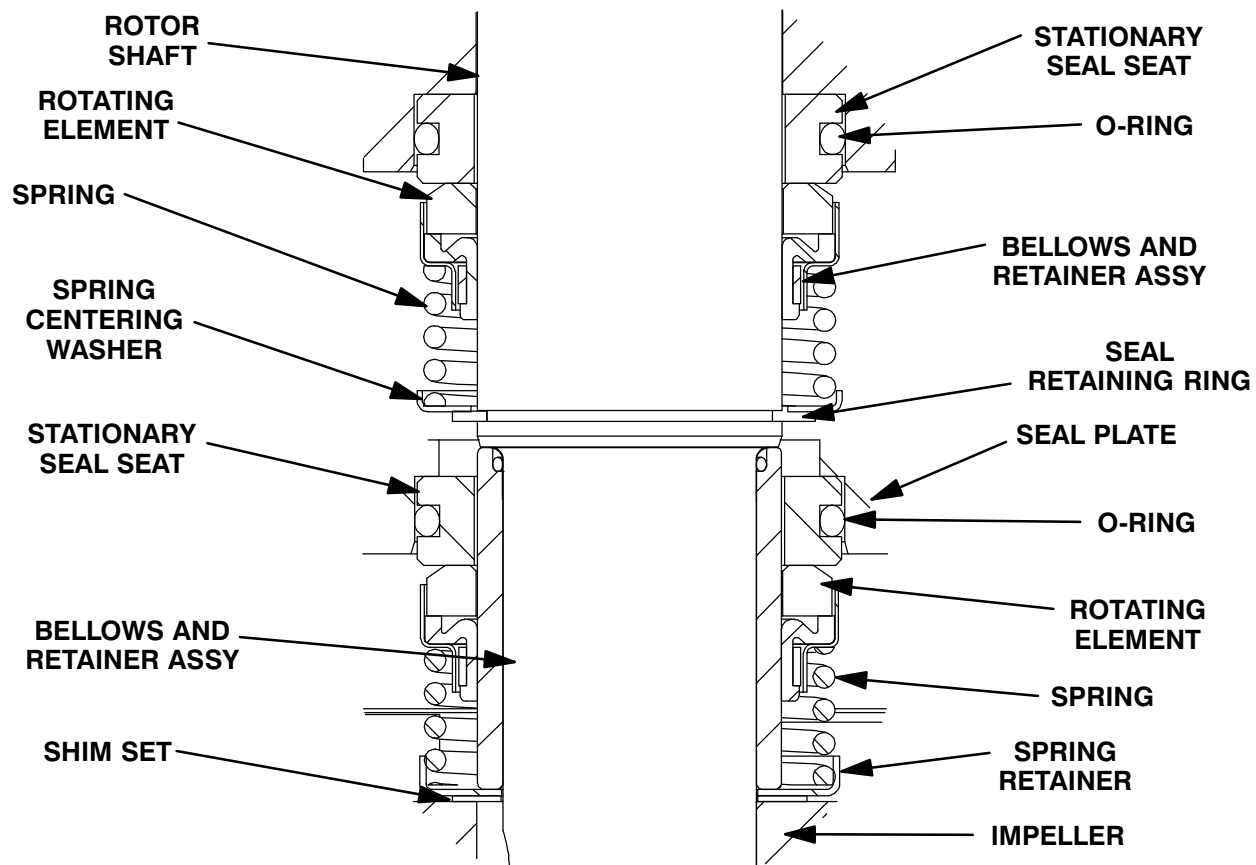

Figure E-3. Upper And Lower Seal Assemblies
Install the shaft seals as illustrated in Figure E-3.
Slide the seal spring over the shaft and bellows retainer and install the spring centering washer. Install the seal retaining ring (11). See Figure E-3 for the proper order of seal assembly.